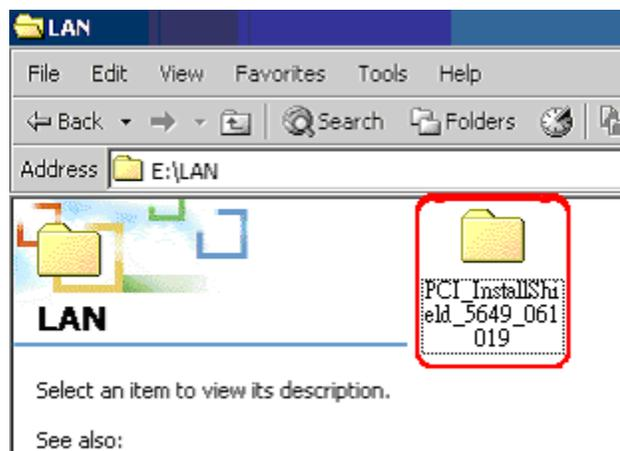

Figure 6-24: Access the Realtek Folder
Step 4: Open the **PCI_InstallShield_5649_061019** folder. See **Figure 6-24**.